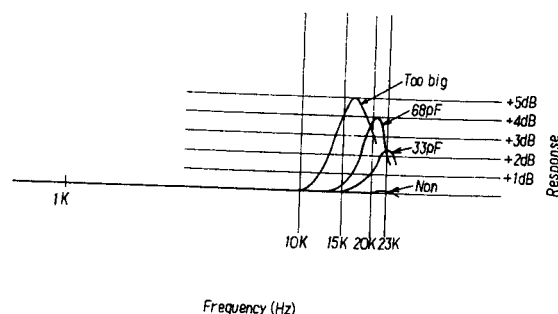

Fig. 7.20
- (5) Load a 15KHz P.B.F.R. tape (DA09002A) and play it back.
- (6) If the output of 15KHz shows the value within ± 2 dB, it shall be considered satisfactory.
- (7) Load a 20KHz P.B.F.R. tape (DA09001A) and play it back.
- (8) If 15KHz at (5) shows the value within ± 2 dB and 20KHz being less than -3 dB, check shall be made on C101, 201 with 0 – 220PF. Refer to Fig. 7.20. "Compensation of Playback High Frequency Response".
- (9) Adjustment shall be made so that 10KHz, 15KHz and 20KHz will become flat when compared with 400Hz.
- (10) If the results are shown to belong to high, set R101, 201 to open -220 K ohms.
- (11) Adjust the azimuth alignment to the maximum output with a 15KHz azimuth alignment tape (DA09004A).